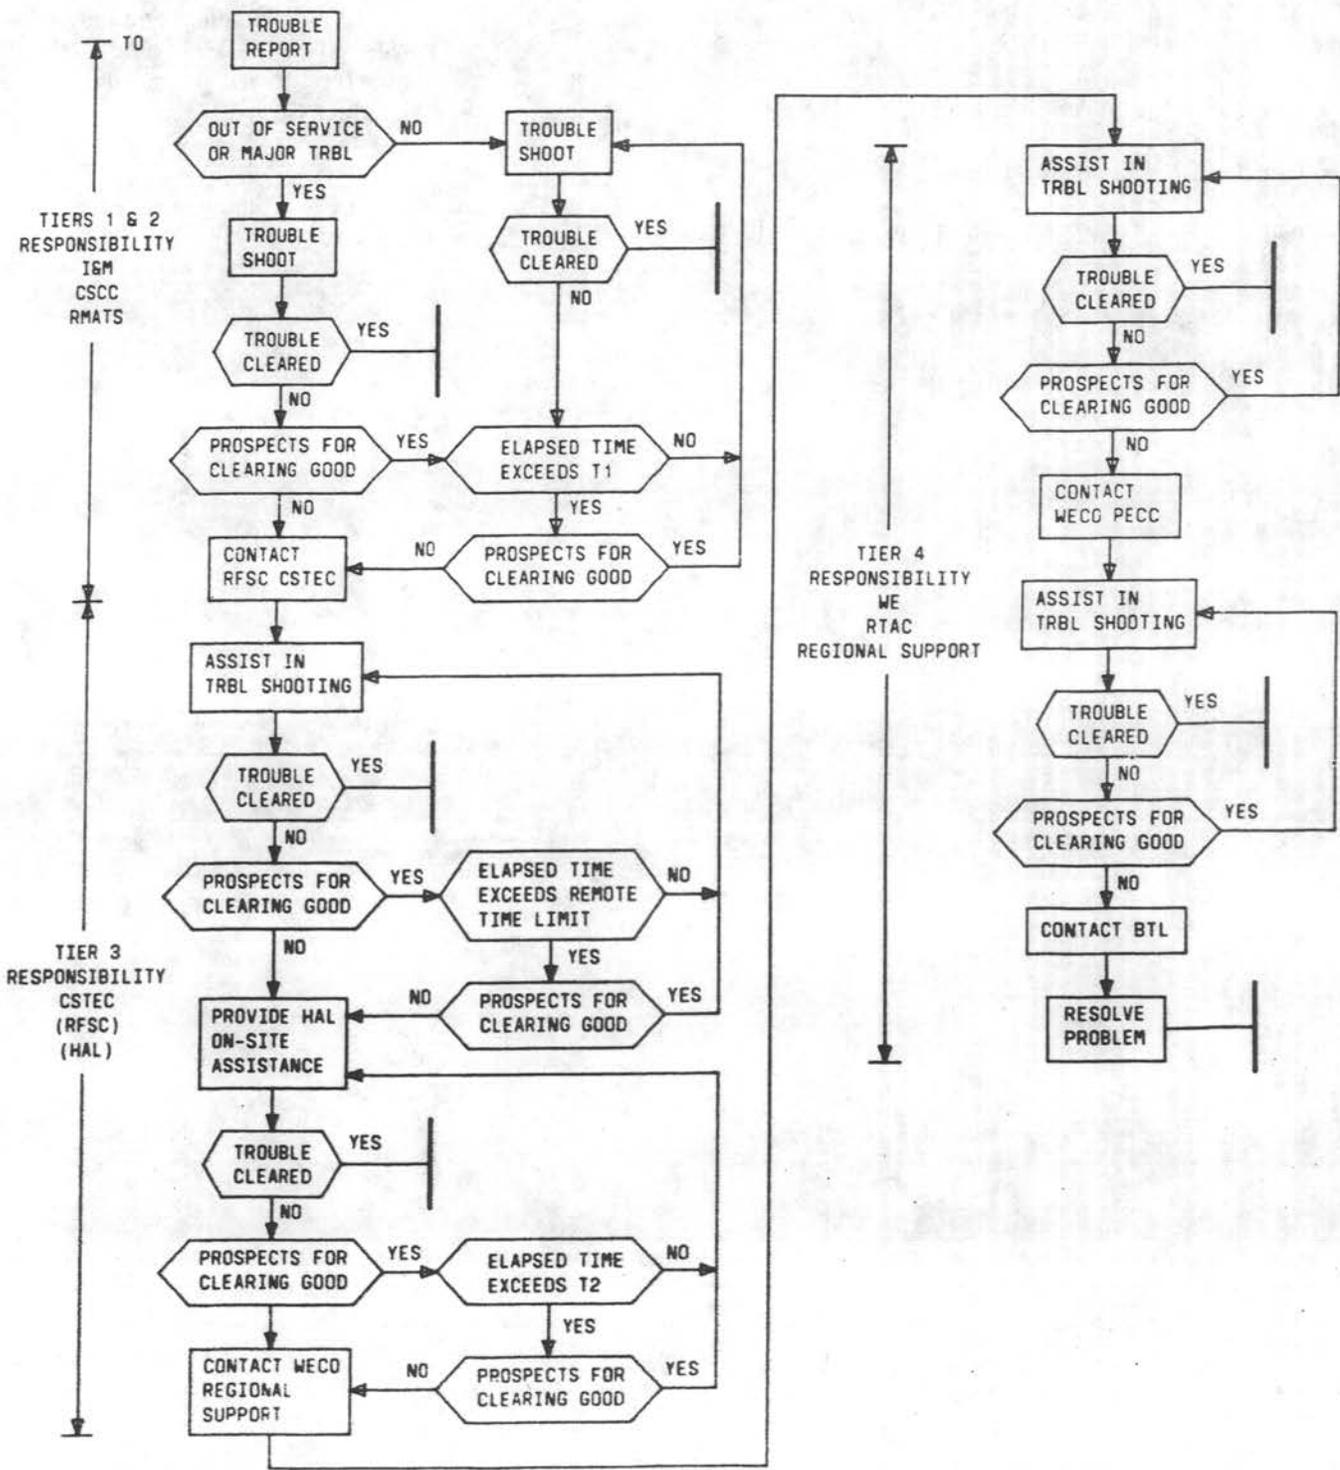

Fig. 1—CSTEC Technical Escalation Flowchart
The flowchart in Fig. 1 shows the interaction of these entities.
3.08 The flowchart in Fig. 1 indicates time frames (T0-T4) at which determinations must be made to involve successive support tiers in a problem. Quantitative values designed to meet customer service requirements have been assigned to these time frames. They are:
3.10 The following is a step-by-step description of the activities resulting from a case of technical escalation (Fig. 1).